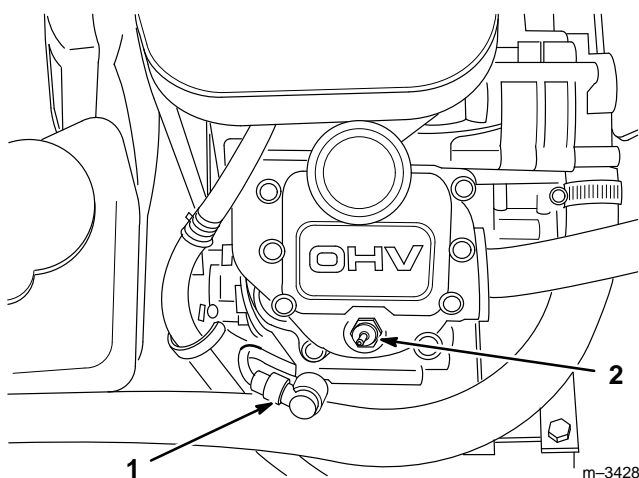

Figure 30
3. Pull the wire(s) off the spark plug(s) (Fig. 30). Now clean around the spark plug(s) to prevent dirt from falling into the engine and potentially causing damage.
3. Push the wire(s) onto the spark plug(s) (Fig. 30).